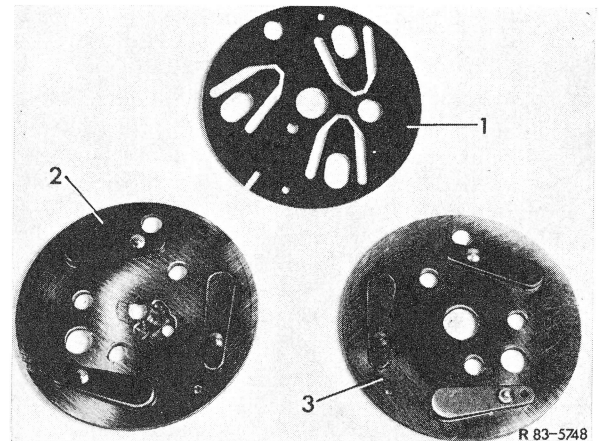

Figure 7
**Note:** The front discharge valve plate (1) can be identified by a large diameter hole in center of plate (Fig. 7).